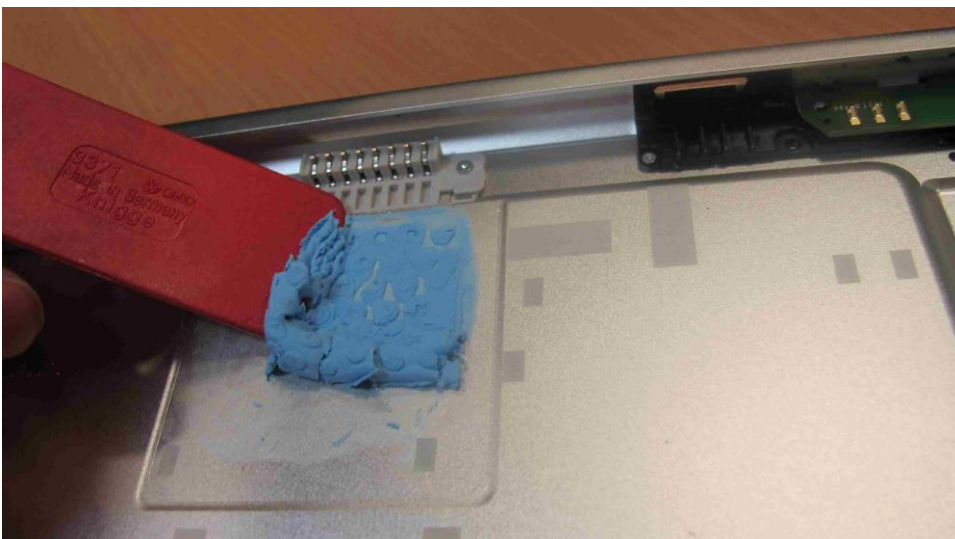

Figure 17.
- Using a non-metallic spatula or similar, remove the used thermal paste and discard – figure 17 and 18.